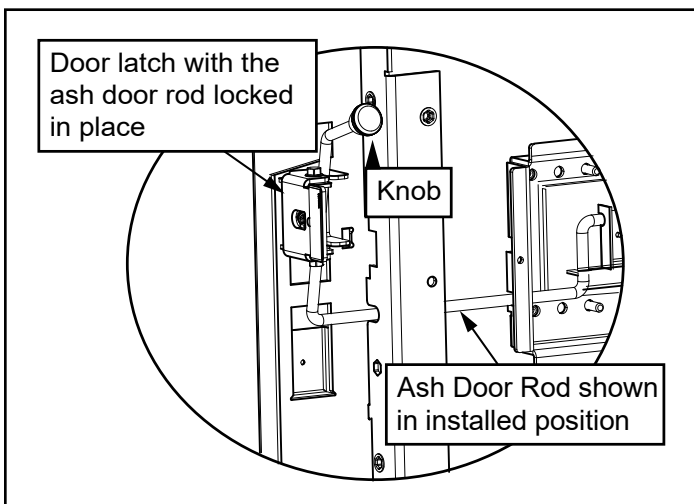

Figure 19.2
10. Add knob to handle rod (**Figure 19.2 on page 19**).
10. Add knob to handle rod (Figure 19.2 on page 19).